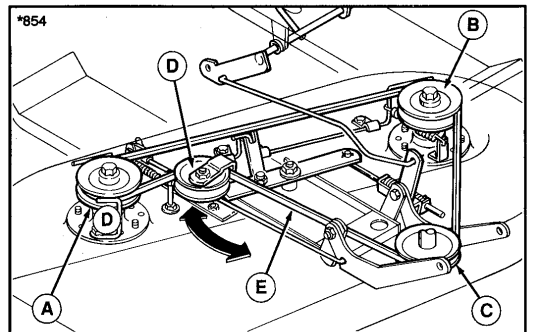
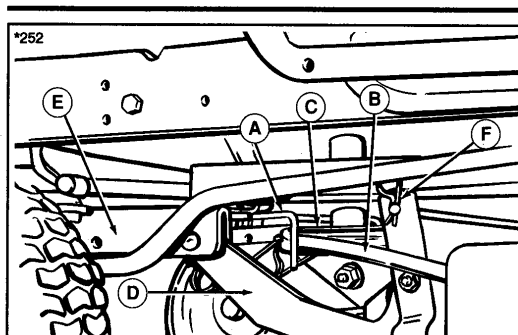
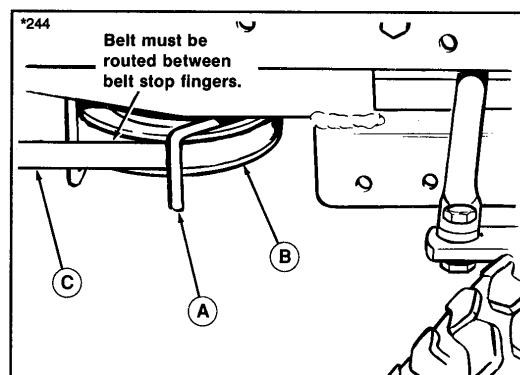

Figure 4. Mower Belt Pattern
Figure 5. Left-Hand Belt Stop
Figure 6. Right-Hand Belt Stop
- Slip the mower drive belt (E, figure 4) onto the PTO pulley (C). Loosen belt stops as necessary. The left-hand belt stop (A) is shown in figure 5. The right-hand belt stop (A) is shown in figure 6. Make sure the belt stop is routed between belt stop fingers as shown in figure 6.
- Make sure the belt is properly installed on the mower pulleys. The belt pattern is shown in figure 4.